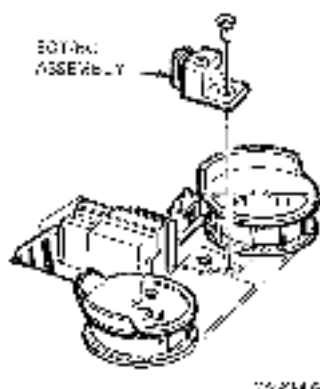

Figure 4-7 EOT/BOT Sensor Assembly
3. Remove the flat-head Phillips mounting screw from the assembly base mount and then lift the assembly from the tape deck (Figure 4-7).